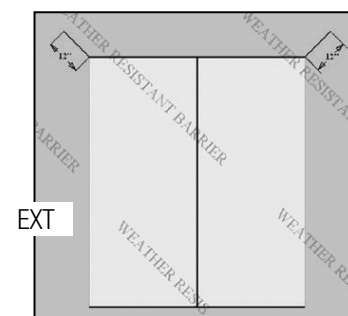

FIG. 2
- F) Cut the weather-resistant barrier (WRB) in a "Modified I" pattern. (Fig. 2)